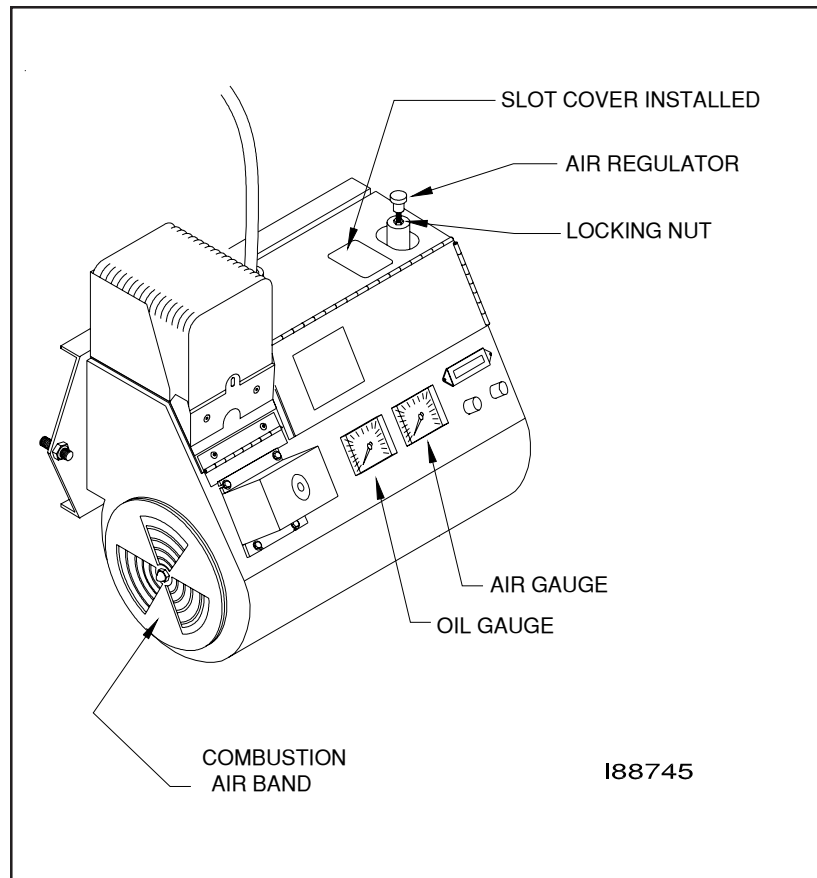

Figure 6A - Component Detail of the CB-500 Series Burner
ATTENTION: Please verify that the oil regulator has been removed from the burner as shown in Figure 6A. If the oil regulator has not been removed, please refer to Section 5 for the necessary instructions -- *Preparing the Burner for Use with the Metering Pump*. The metering pump will automatically supply the correct flow (LPH) of fuel to the burner.
4. Refer to Figure 6A. Loosen the locking nuts on the air regulator.
- Refer to Figure 6A to identify the combustion air band location on the burner.